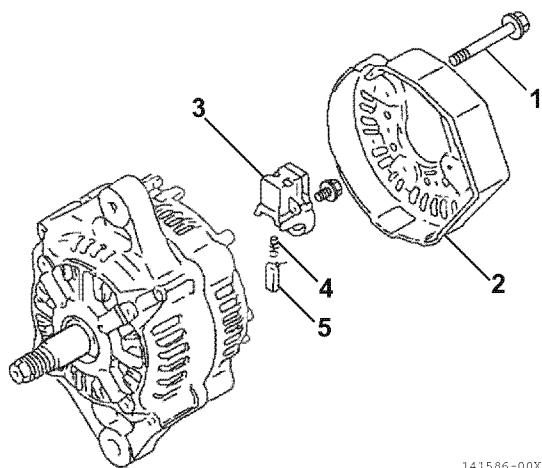

Figure 12-18
- Reinstall the brush holder (3, **Figure 12-18**), springs (4, **Figure 12-18**) and brushes (5, **Figure 12-18**).
- Reinstall the rear cover (2, Figure 12-18) to the rear frame housing with three bolts (1, Figure 12-18).